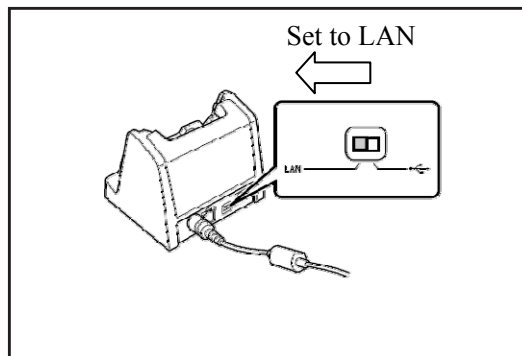

Figure 5.31
4. Make sure the selector switch on the back of the HA-D62IO Ethernet cradle is set to the position "LAN". See Figure 5.31 below.